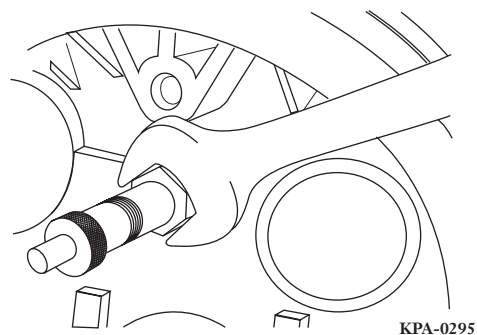

Figure 56 — Valve Stem
- Step 2** Install the valve stem finger-tight, then another half turn with a wrench, into the grounding port as shown in Figure 56.